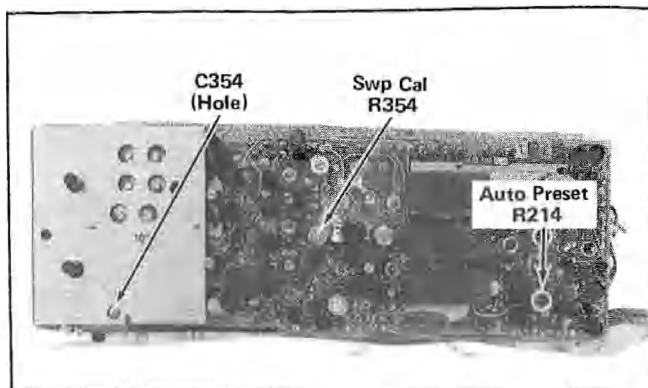

Fig. 5-9. Location of Sweep Cal and Auto Preset adjustments.
f. Adjust the AUTO PRESET (R214) side panel screw-driver adjustment for a triggered display. See Fig. 5-9.
g. Adjust the SWP CAL adjustment R354 so that the time marks align with the center eight graticule lines. See Fig. 5-9.
l. Adjust C354 so that the time marks align with the center eight graticule lines. See Fig. 5-9.